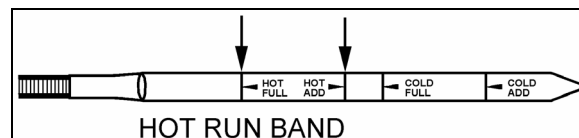

FIGURE 5: HOT CHECK
5. If the level **is not** within this band, add or drain fluid as necessary to bring the level within the HOT RUN band. (Fig. 5).